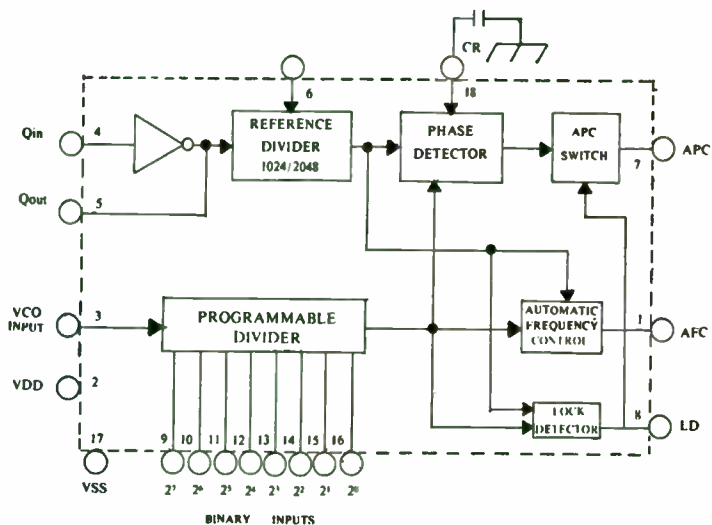
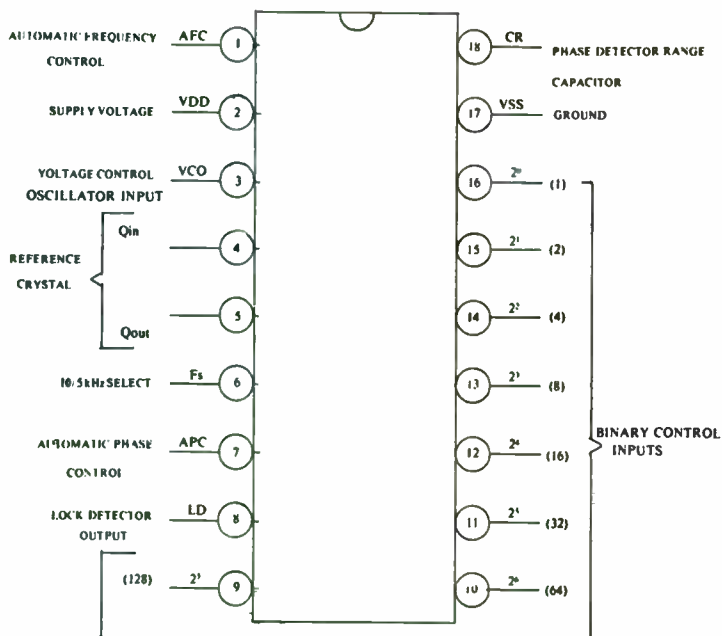

Fig. 4-1. The internal structure of the Resdel REC86345 PLL IC.
Fig. 4-2. An overview of the Resdel REC86345 PLL IC showing the functions of the various pins and the pin numbering scheme.
The block diagram in Fig. 4-1 shows the internal structure of the REC86345 IC. Figure 4-2 shows the pin numbering scheme and pin functions of the IC.
The reference oscillator crystal, X202, connects between pins 4 and 5 of the IC. Pin 4 is the input to a CMOS inverter (see Fig. 4-1). The reference oscillator operates at 10.240 MHz. This 10.240-MHz signal is fed to the reference divider. This reference divider can be set to divide by 1024 or 2048, depending on the voltage level at pin 6 of the IC. If pin 6 is open, the internal pulldown resistor in the IC pulls down the pin voltage to a LOW level. In this condition the reference divider divides by 1024 to yield a 10-kHz reference frequency at the output of the reference divider. If a HIGH level voltage (+ 5 volts) is applied to pin 6 the reference divider will be set to divide by 2048. The output of the reference divider will be a 5-kHz reference frequency. Pin 6 is left open in this circuit, so the reference frequency is set at 10 kHz.
The programmable divider is programmed by the pure binary form. The weights of the various programming pins are shown in Fig. 4-2. To find the divisor (N) which is programmed into the divider, simply add the weights of the program pins where the binary 1 level appears. Table 4-3 shows the programming code for each of the 40 channels. Also, the input frequency to the programmable divider, the VCO frequency, and the divisor (N) are listed for each channel.
At this point, the lock detector indicates a frequency acquisition and therefore produces a HIGH level voltage at pin 8 of the IC. This HIGH level voltage is also applied to an APC switch (see Fig. 4-1), which enables the phase detector output to appear at pin 7 of the IC. This phase detector output serves to fine tune the VCO to keep it on track.